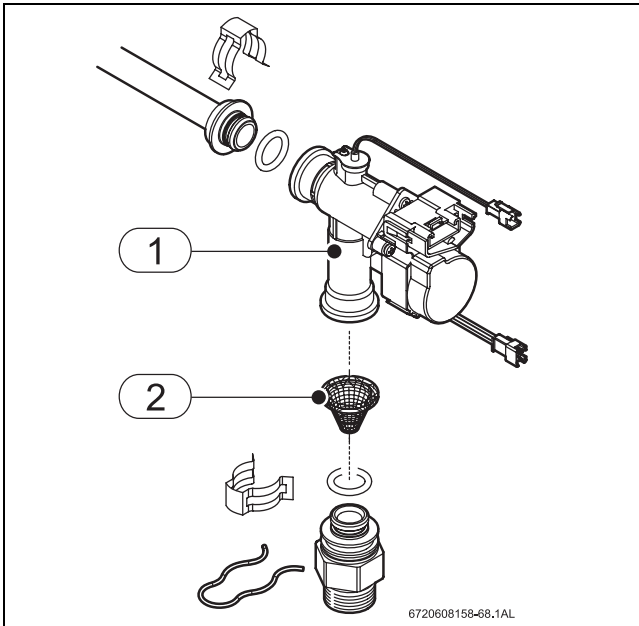

Fig. 64
- ▶ Dismantle the cold water inlet pipe (→ Fig. 64).